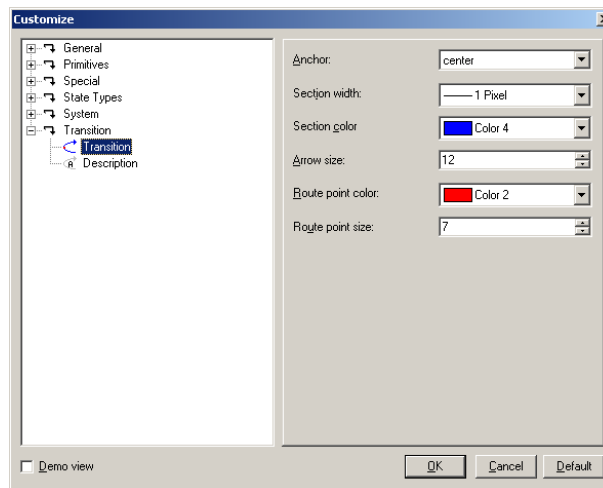

Figure 50: Designer Customize dialog box, transition category selected
- 1 On the Designer menu, choose Tools>Customize. A dialog box is displayed. In the tree, click the node of a category to expand it. Select the item to be customized. See example in *Figure 50*, page 65.